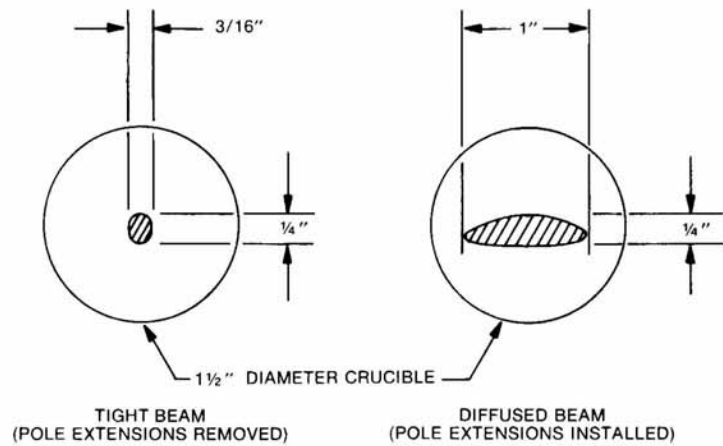

FIGURE 1
H. BEAM SPOT SIZE (See Figure 1)